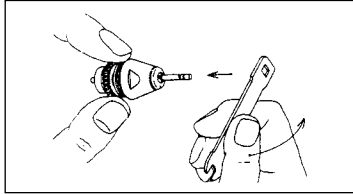

Fig. 11
- ② Hold the rotor with two fingers as shown on the Fig.11.